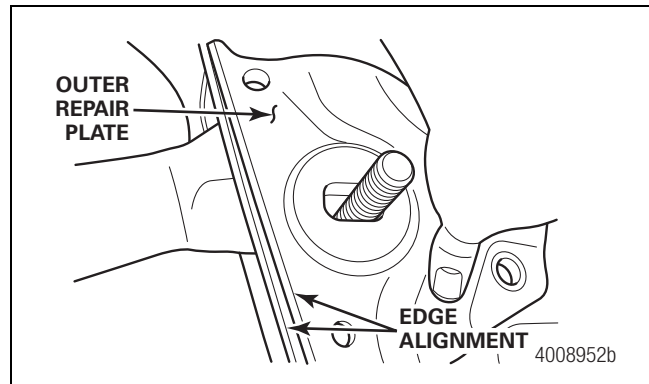

Figure 2
- Place the outer repair plate in position over the bolt. Place an alignment washer, a hardened washer and the nut onto the bolt. Ensure the plate seats correctly into the hole and also against the flange of the belly pan. Tighten the nut again, ensuring the assembled parts move into correct position without binding. Figure 2.